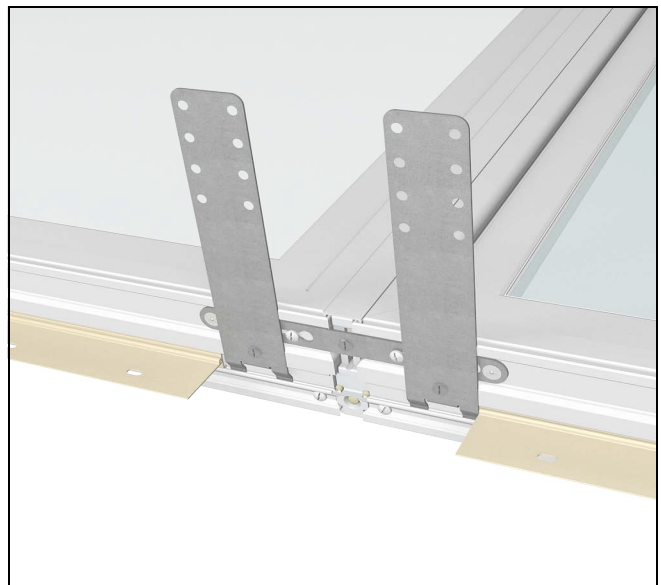

Figure 18
8. For sill mullion joints, take previously removed sill nail fin and cut sill nail fin at each mullion joint location and shorten the ends of each by 3" - 3-1/2" near each mullion to allow space for the flat sill structural brackets and nail fin pieces into the sill T-slot. See Figure 18.